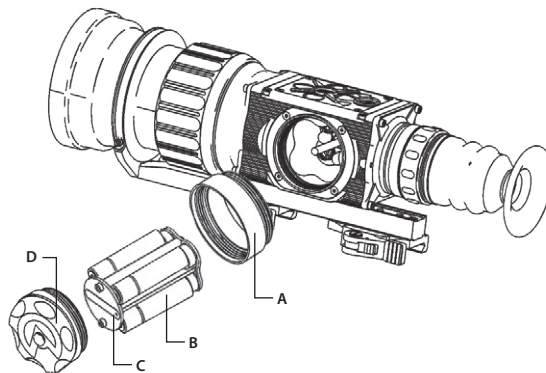

FIGURE 3-3. AA BATTERIES INSTALLATION
Install four (4) AA batteries as follows (refer to Figure 3-3):
3. Install battery box extender ring (A, Figure 3-3):
4. Insert four (4) AA batteries (B) into the battery cartridge (C) with all of the batteries oriented in the same direction with the negative (-) terminal against the cartridge springs and the positive terminal (+) toward the non-spring end.